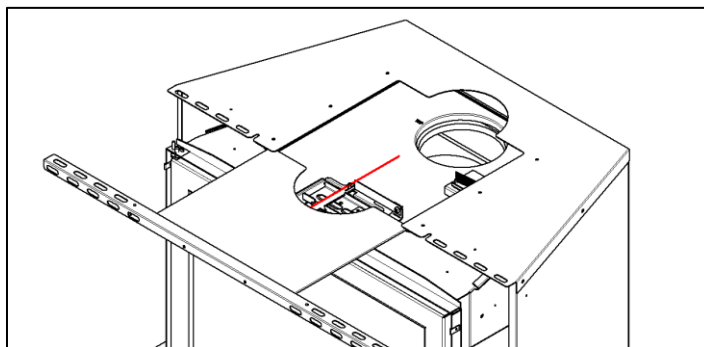
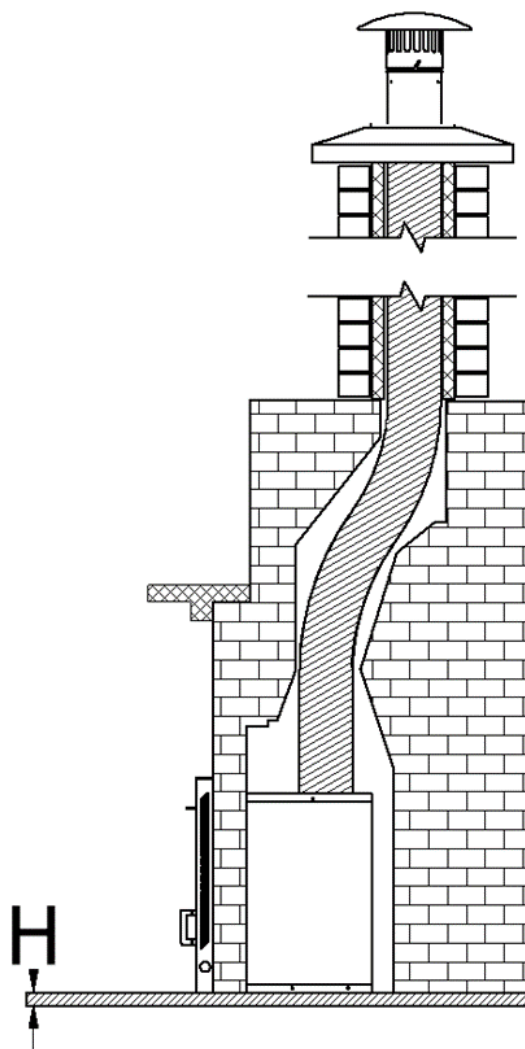

Figure 3-6: Circulating Chamber Top Removable Bracket
Figure 3-7: FLAIR Installation
- Align the liner adaptor with the top opening of the circulating chamber. Note that the top/front portion of the circulating chamber can slide off to allow for better access to the liner adaptor - loosen wing nuts on front bracket (Figure 3-6).
Refer to Figure 3-7, Figure 3-6, Table 3-2 and Table 3-3 for clearances to combustibles of the FLAIR insert.